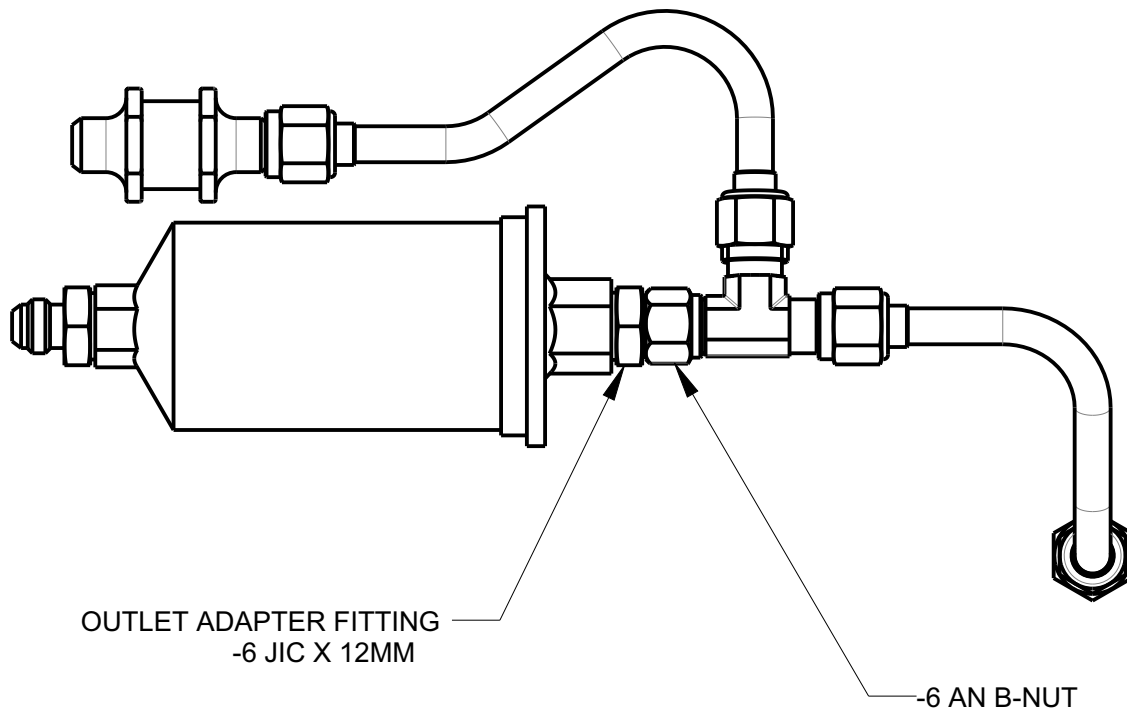

FIGURE 10-24
10. At the fuel filter outlet, loosen the -6 AN B-nut with an 11/16 wrench while holding the 12mm adapter fitting with a 3/4 wrench. See Figure 10-24.
3. Use a 3/4 wrench to hold the 12mm adapter fitting at the fuel filter outlet and a 11/16 wrench to torque the -6 AN B-nut to 110-130 in-lbs. See Figure 10-24.